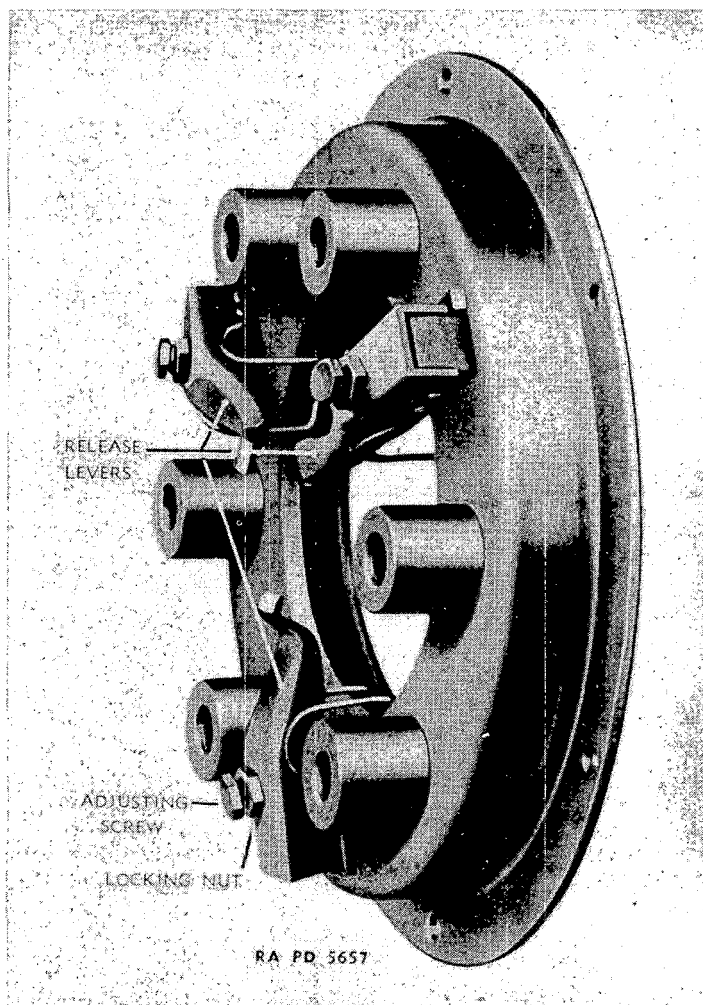

FIGURE 20.—Clutch adjustment.
53. Clutch.—*a. General.*—A single plate, dry disk clutch is mounted in the forward portion of the torque tube housing. The clutch is of the spring loaded type. It may be adjusted to provide for some free movement of the clutch pedal before the clutch begins to disengage (fig. 20).